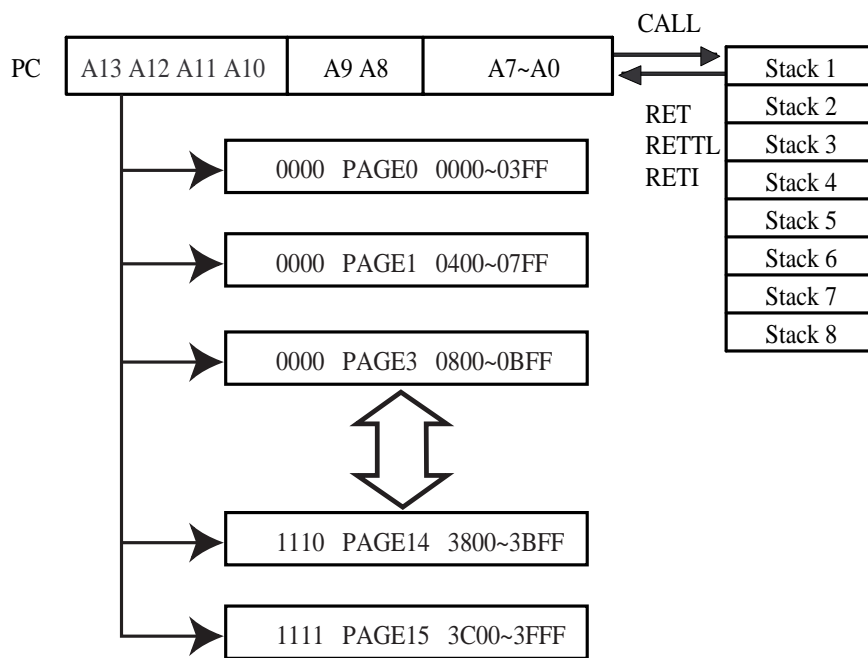

Fig.4 Program counter organization
- The structure is depicted in Fig. 4.
- See the configuration of the data memory in Fig.4.